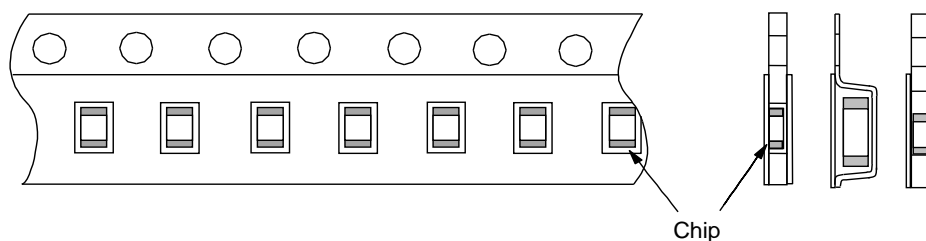

Fig.2 Dimensions of Reel
Solder the capacitor on the test substrate shown in Fig.1. Pressurization method : Shown in Fig.2 Holding Time : 5+/-1s Soldering Method : Reflow soldering
1.11 Reel is made by resin and appeaser and dimension is shown in Fig 2.